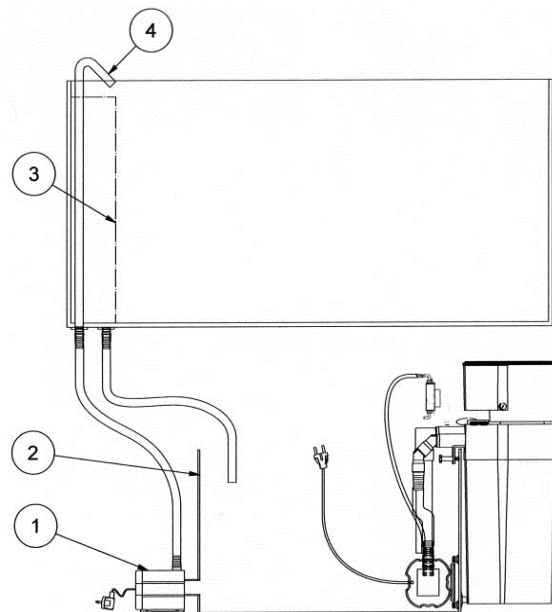

Fig. 4: Turboflotor Blue 3000, set up next to the filter tank
2. For use in the cabinet with a sump or under tank filter system (Fig. 4)
Set up: beside or inside the filter tank of a sump or under tank filter system (Fig. 4):
See the above hang-on procedures for installing the skimmer on the outside of the filter tank. It is attached to the frame of the filter tank. If the filter tank is not high enough, the skimmer is placed beside the tank. For the return flow, outflow boxes may be used. If the water level in the filter tank is very low or there is a shortage of space in the tank, the 90°-elbow fitting (Fig. 1, No. 12) may be connected to the outlet and the water will then be directed down to the water surface in the tank. This avoids splashing and reduces noise. The venturi pump is fixed inside the filter tank in such a way that it will not run dry and the length of the pressure tube has to be kept as short as possible (Fig. 4). The pump should be placed close to the water surface. To prevent the pump running dry, we recommend to use an automatic level controller (e. g. aquaniveau or Niveaumat) to ensure replacement of evaporated water and to keep the water level in the filter constant.